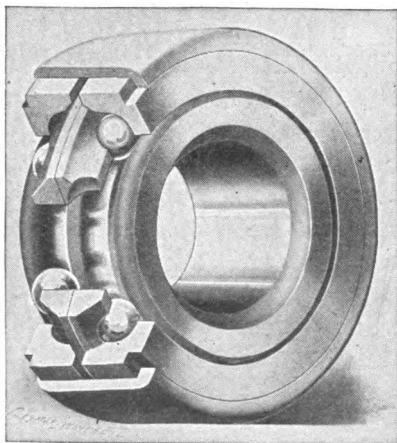

Fig. 244. Bearing for Combined Radial and Thrust Loads
**Combined Radial and Thrust Bearing.** The need for a bearing which would take ordinary radial loads well and also sustain thrust has led to the development of combined radial and thrust bearings, one being illustrated in Fig. 244. This is constructed to take either form of load equally well, and for this reason has displaced a pair of ball bearings in many circumstances where formerly it was thought necessary to use a radial ball bearing to sustain the load and a thrust ball bearing to absorb the end thrust. In this way it represents an important economy. Furthermore, it is economical of space, as it takes less room than the former pair of bearings used for the same two purposes.